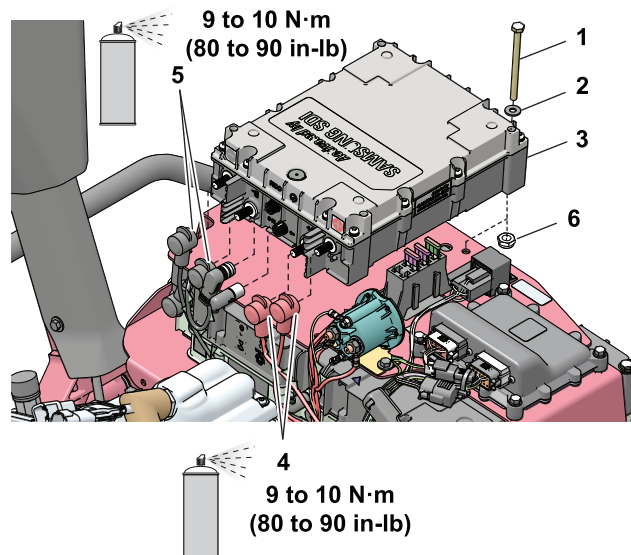

Figure 70
9. Install the lithium-ion battery controller in reverse order. Install the controller with the positive (+) terminals upward; refer to Figure 70 and Figure 72.